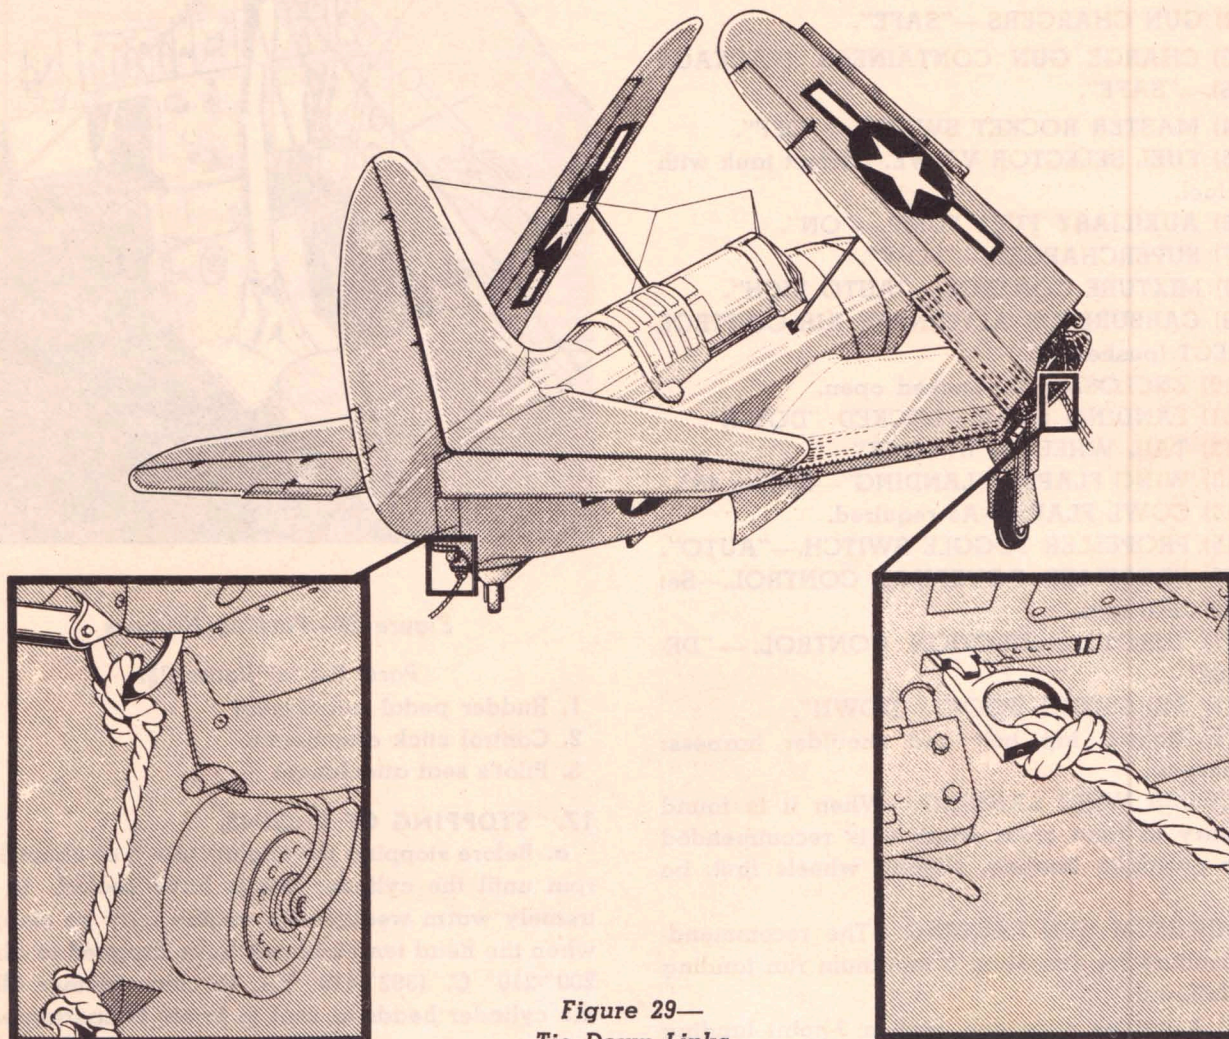

Figure 29—
a. TIEING DOWN.—There are three points at which the tie-down lines may be attached to the airplane. Located on the center panel just inboard of the wingfolds (see figure 29) are retractable tie-down rings. The catapulting hold-back shackle in the rear of the fuselage just above the arresting gear hook, (see figure 29) may be used to secure the tail. In extreme cases, the towing eyes on the main landing gear should be used.